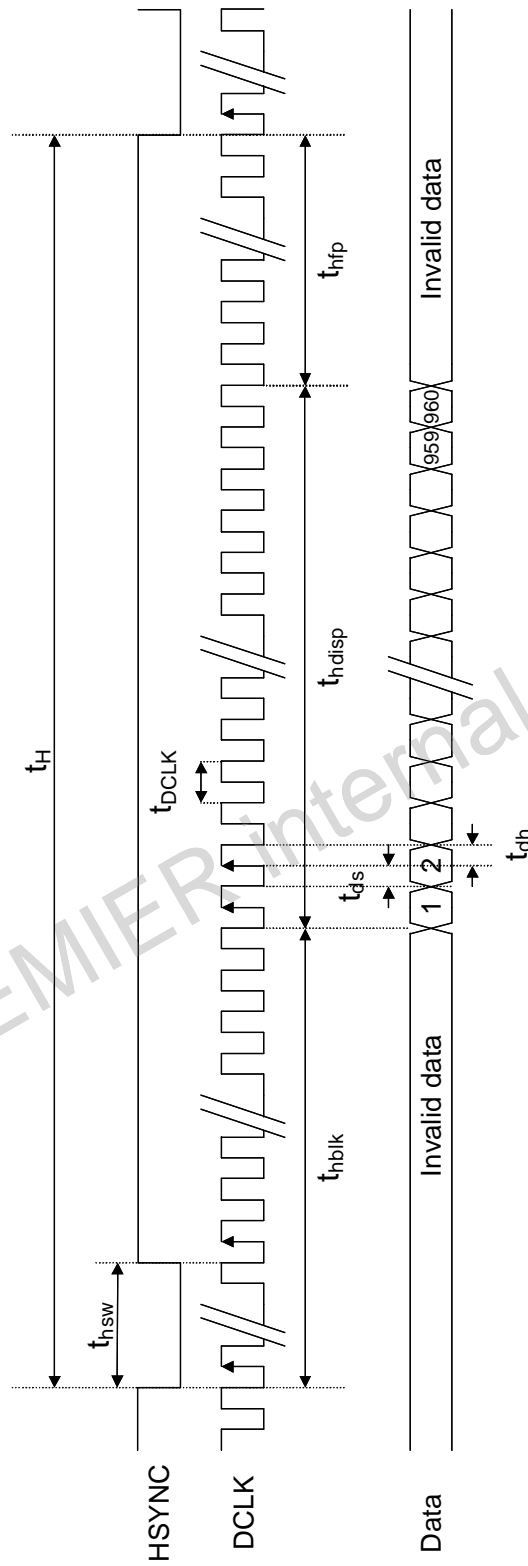
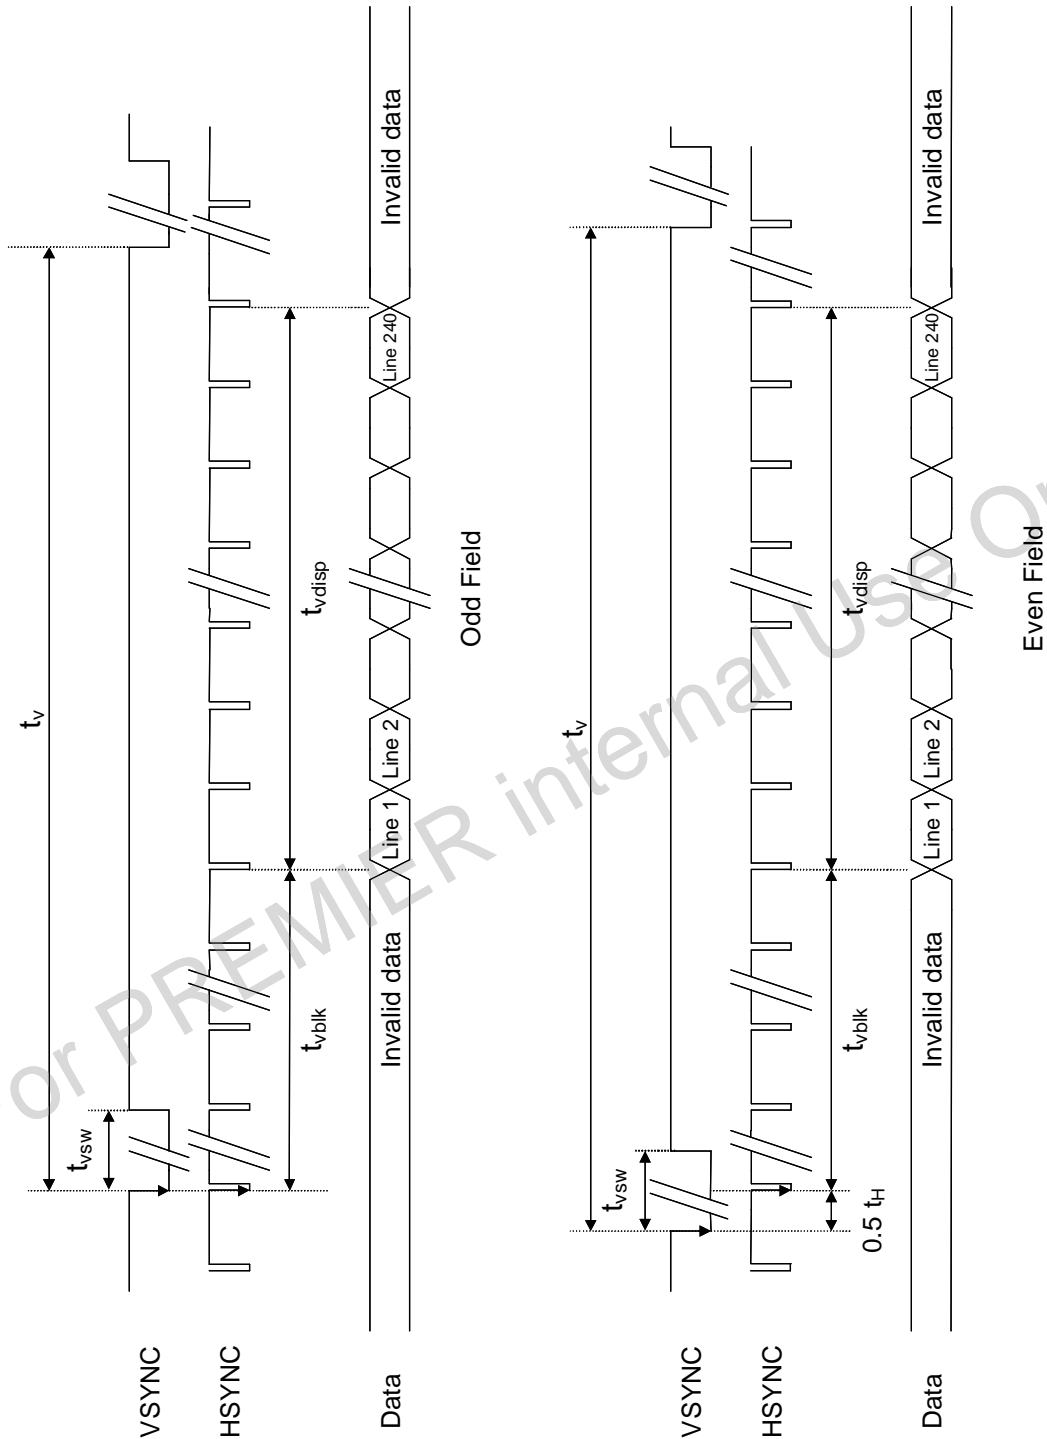

Fig.1 UPS051 Input Horizontal Signal
Fig.2 UPS051 Input Vertical Signal
a. UPS051 Timing conditions (refer to Fig. 1, Fig. 2)